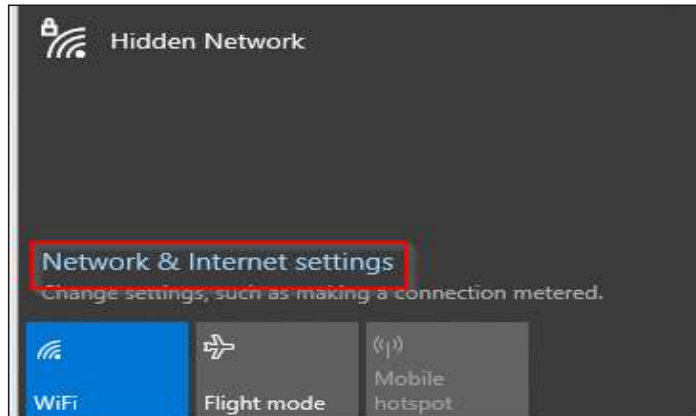

Figure 6 - Network & Internet Setting
1.11. Click on **Network & Internet Settings**. See Figure 6.